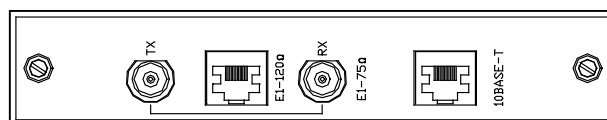

Figure 7 Panel of FE1&10/100BASE-T bridge module
- The small panel of FE1&10/100BASE-T bridge module, as shown in figure 7.